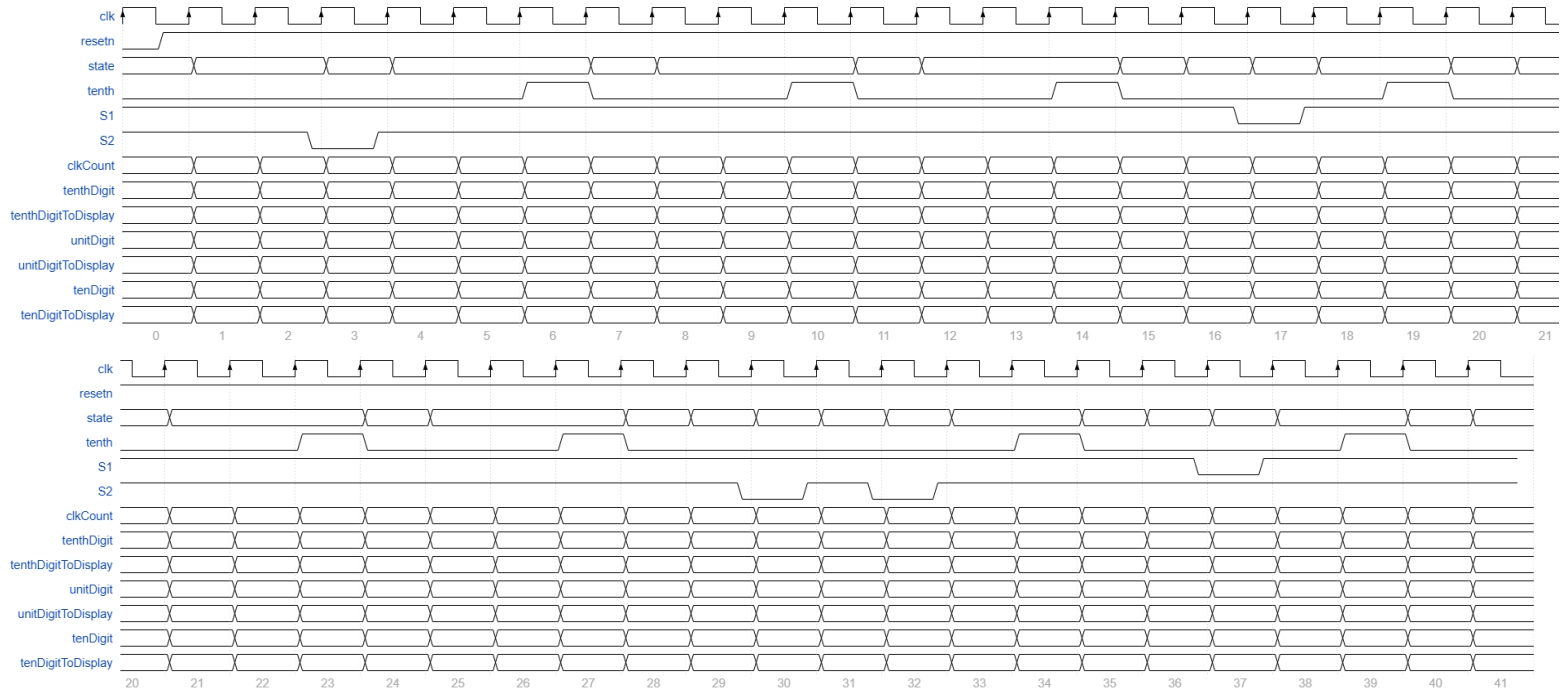

Figure 11.4: Timing diagram that you will run on the testbench.
The timing diagrams in Figure 11.4 show the S1 and S2 signals as they are manipulated by the testbench. The tenth signals will be asserted by your datapath but are included to help you. Your task is to fill in the symbolic name of the state that the FSM is in as well as the clkCount value, the mod10Counter outputs and the values displayed on the 7-segment displays.
Run the testbench using the provided do file and compare the output against Figure 11.4. You will probably need to modify the do file to make it work with your design. Address any problems in the stopwatch before proceeding.
- Completed Figure 11.4. Please paste the images in landscape format into your solutions